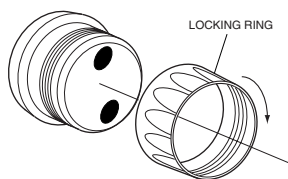

Figure 1
A. SPEEDOMETER / CLOCK (Figure 1)